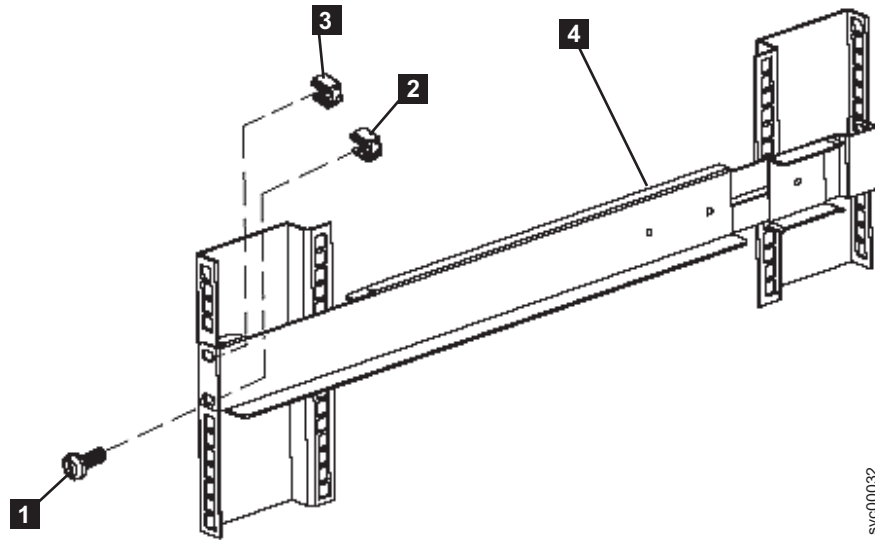

Figure 214. Removing the front rail on the 2145 UPS-1U
3. Remove the clip nut from the top hole of the rail (**3** in Figure 214).